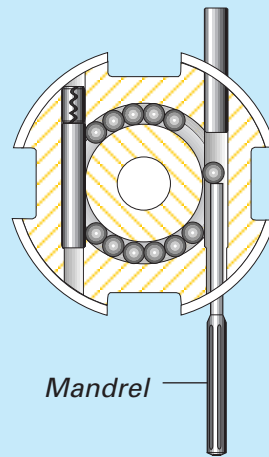

Fig. 2
6. Load bearing balls into the hole without lock pin. Use the mandrel to guide the bearing balls into the groove (Fig. 2). Fill groove with no of bearing balls as shown on next page.